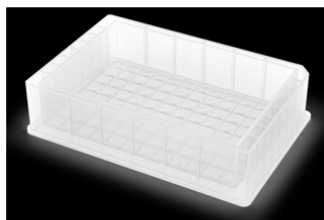

Figure 2
- a first sterile 195 mL NEST 1-well reservoir (**Figure 2**) for collecting organic liquid waste in **SLOT 11** of the deck of each OpenTrons machine belonging to Station B